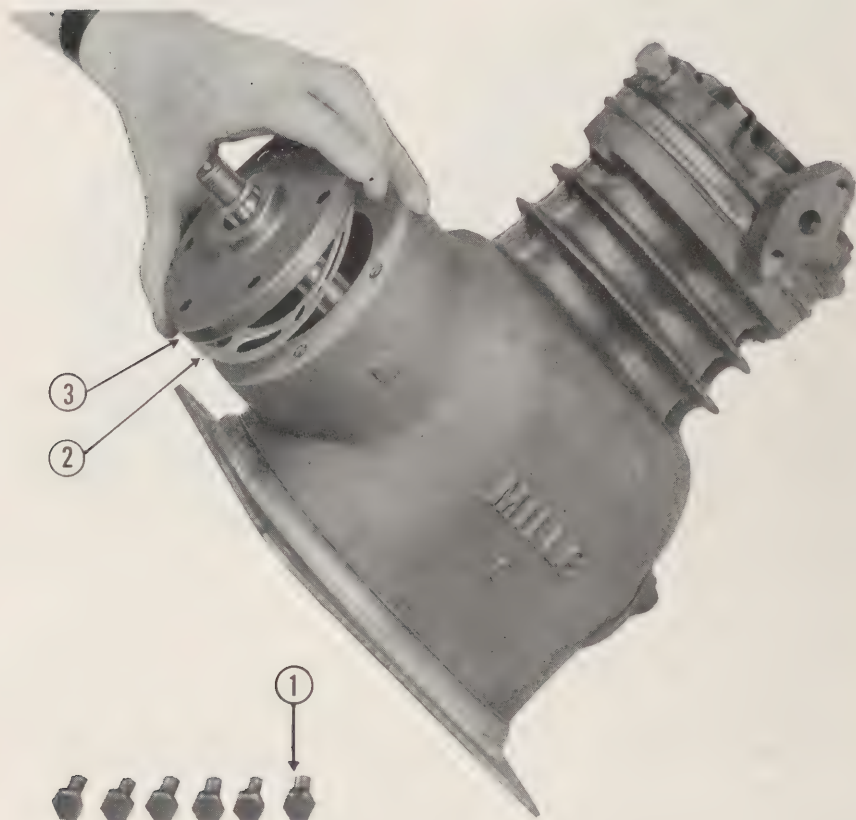

Figure 46. Removing the eccentric shaft seal assembly.
- (1) Remove the compressor. (See par 57 a.)
- (2) Remove the flywheel. (See par 57 c.)
- (3) Lay compressor back (fig 46) to prevent the oil from leaking out of the crankcase.
- (4) Remove the eccentric shaft seal cap and gasket by removing the 6 screws (fig 46).